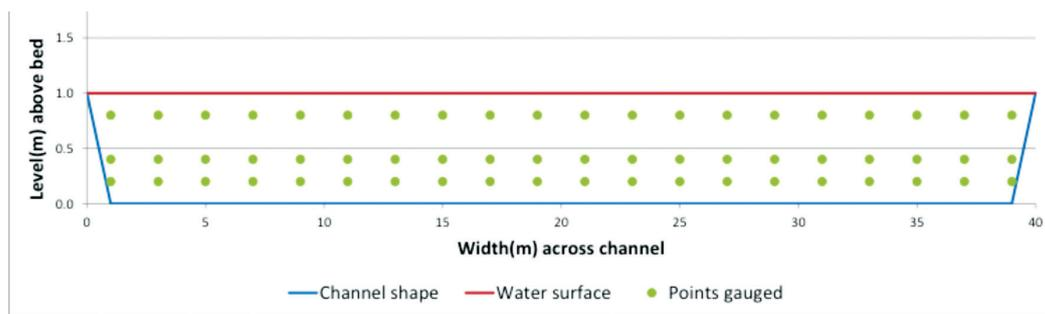

Figure 3 A typical river gauging cross section – and points gauged
- 1.0 m water level and 40 m wide (with 3 points per vertical) as shown in Figure 3